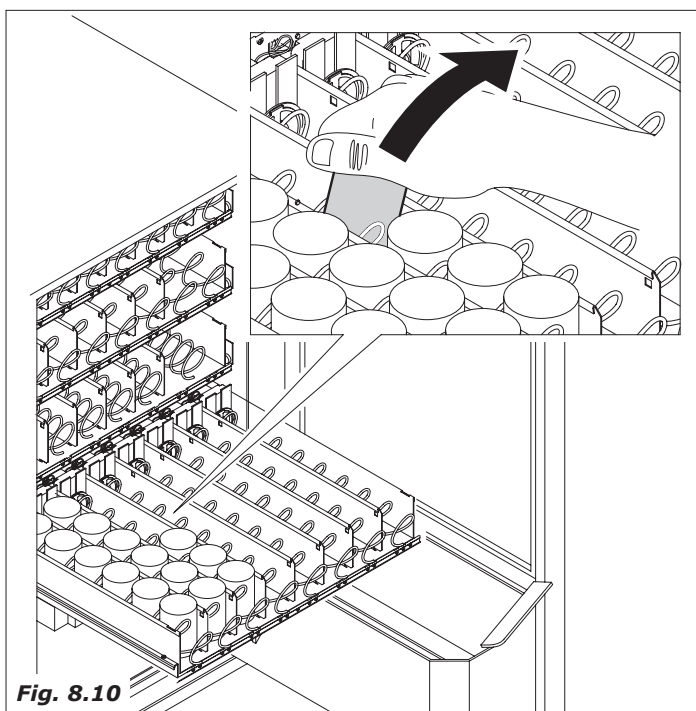

Fig. 8.10
- esvaziar completamente as gavetas (Fig. 8.10)